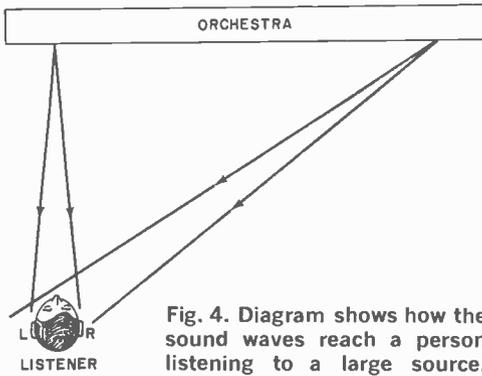

Fig. 4. Diagram shows how the sound waves reach a person listening to a large source.
**Fact:** If you are listening to an orchestra as in Fig. 4, an instrument at the left produces equal-intensity sounds which arrive at both ears simultaneously. Now, if an instrument at the extreme right is played, the sound behaves differently, arriving slightly earlier and slightly louder at the right ear than at the left. The hearing mechanism interprets this in terms of direction.